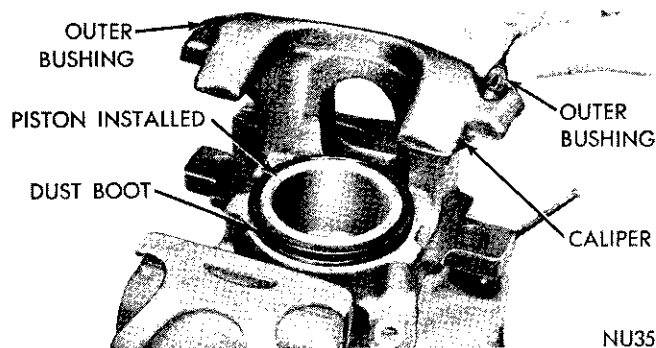

Fig. 18—Installing Outer Bushings
- (1) Slowly and carefully push piston back into bore until it is bottomed. Watch for possible reservoir overflow. See Step 9 of "Disc Brake Service Precautions".
- (2) Install new inner guide pin bushings in caliper with flanged end on inboard side (Fig. 3). Compress flanges of outboard bushing in fingers and work into position in hole from the outboard side of caliper (Fig. 18).
into position in hole from the outboard side of the caliper (Fig. 18). Press **IN** on bushing, using finger tips or small plastic stick (Fig. 18) until seated. Be sure flanges extend over caliper casting evenly on both sides. Install bleeder screw.